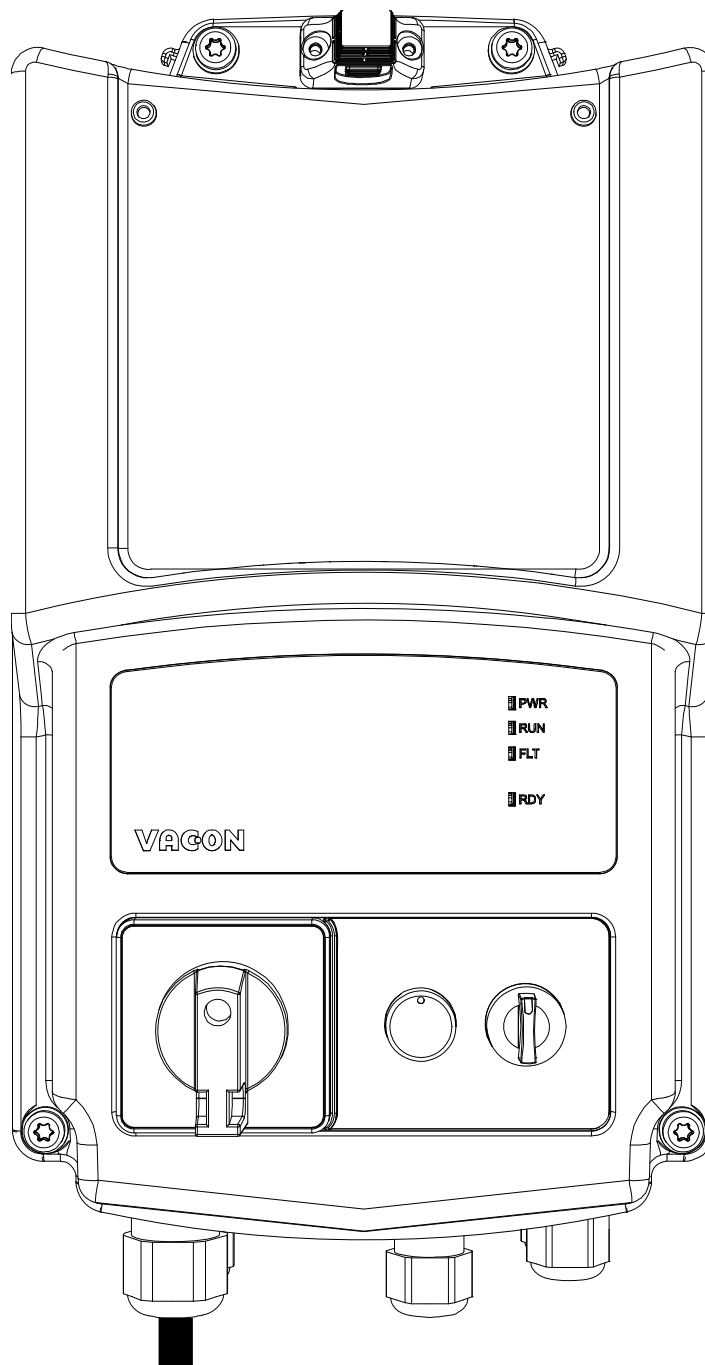

Figure 69. Mount the plastic cover.
- Mount the plastic cover onto the drive with its screws (use torque 2Nm) and the HMI cap: the installation process has been completed. See Figure 69.